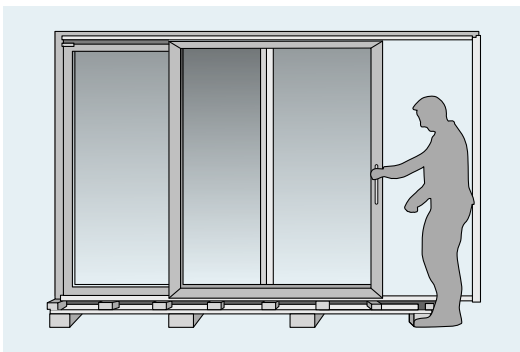

Figure 3
3. Stop halfway and close the handle (figures 3 and 4).